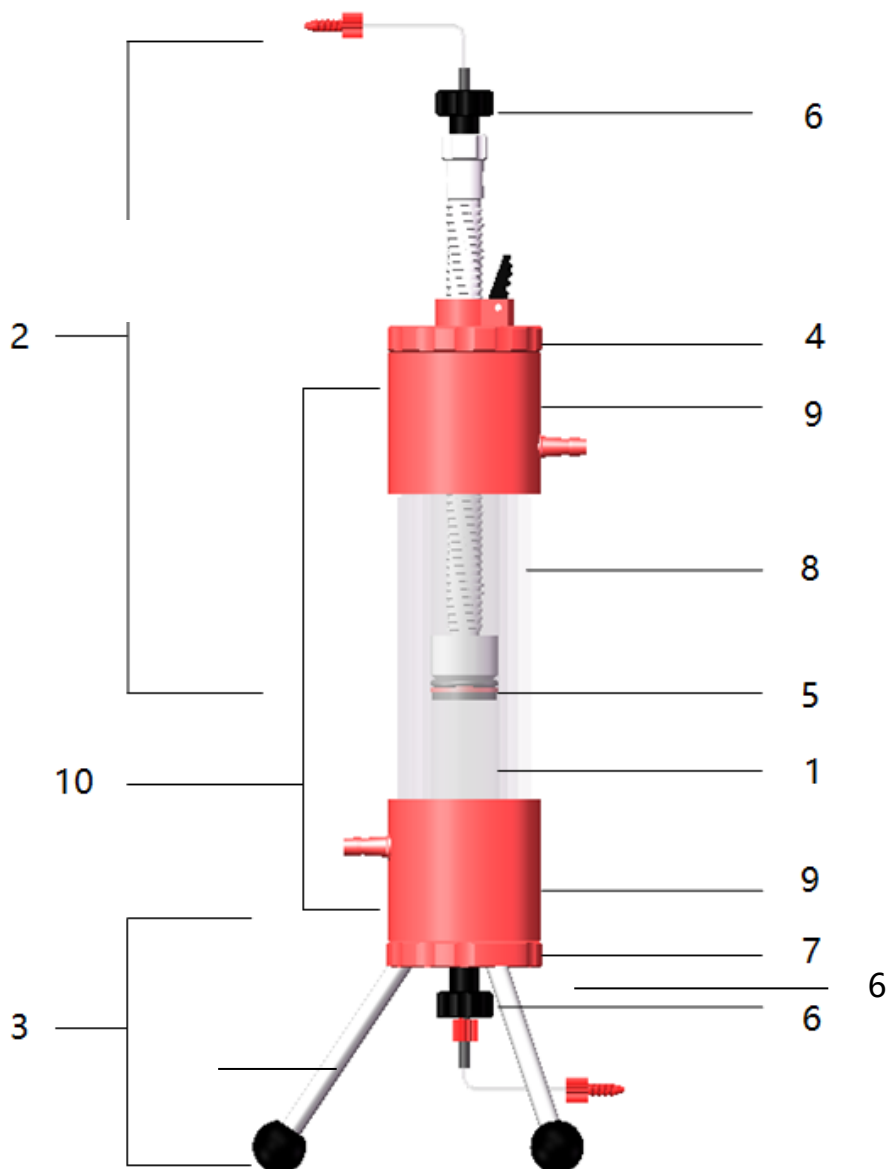

Figure 1. The main parts of GALAK chromatography column
The main components of GALAK column indicate in Figure 1. The detailed view of column parts can be referred to the disassemble diagram in Figure 6.
3. Insert column bottom into the glass pipe (1) (Figure 1).